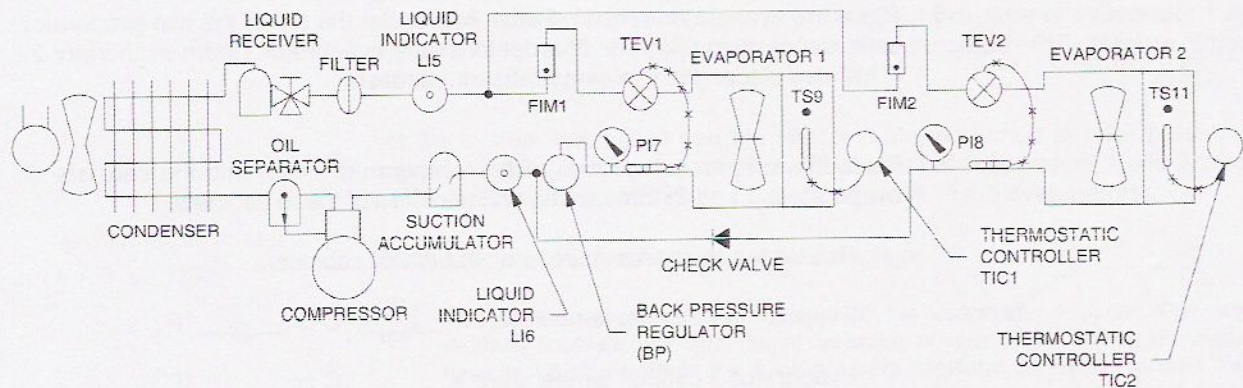

Figure 5-14. Schematic diagram of a multi-evaporator system using back pressure valve.
A schematic diagram of a multiple evaporator system using back pressure regulator control is shown in Figure 5-14. The regulator maintains the pressure in evaporator 1 to a constant desired setting. The pressure in evaporator 2 will be typical of that using a TEV. Therefore, the space temperatures provided by the evaporators will be different.
1. Open and close the manual valves to arrange the refrigeration system as shown in Figure 5-14. Figure A-7 in Appendix A may be used at this point to assist in the proper set-up of the system.